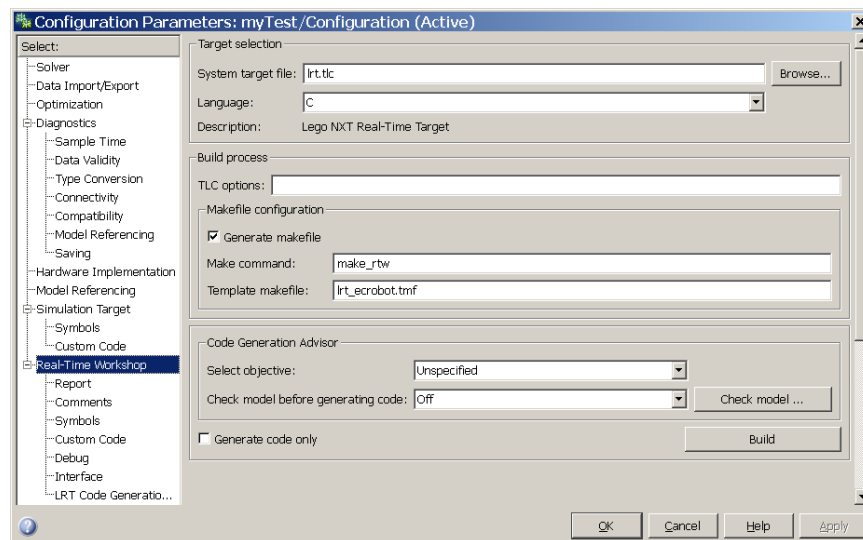

Fig. 8: Configuration Parameters, Real-Time Workshop pane
9. Still within the Configuration Parameters dialog, configure the **Real-timeWorkshop** pane as shown in Fig.8. In particular...
- Click the Browse button and select **lrt**, the VU-LEGO Real Time target as the **SystemTargetFile**. The other options should be set automatically and appear as shown in Fig 8.